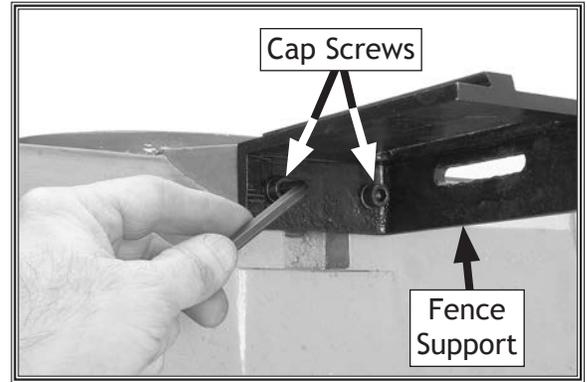

Figure 9. Attaching the fence support.
1. Use two M8-1.25 x 20 cap screws and 8mm lock washers to attach fence support to jointer bed, as shown in **Figure 9**.